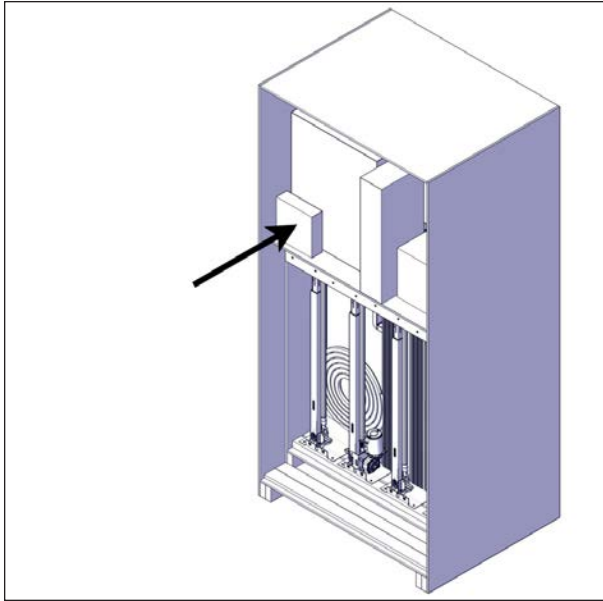

FIGURE 19: BOX REMOVAL
9. Remove all boxes above the jack box, and keep in a safe location, see Figure 19.